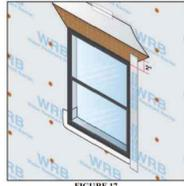

FIGURE 17
7.4.2 Cut the jamb flashing to a measurement equal to twice the roll width of the flashing being used, plus the height of the rough opening, minus 25 mm (1 in) and apply onto window jamb (see Figure 17).
7.4.3 Adhere the top end of the flashing 50 mm (2 in) above the rough opening, such that the head flashing (applied later) will lap over the jamb flashing by at least 50 mm (2 in) (see Figure 17).